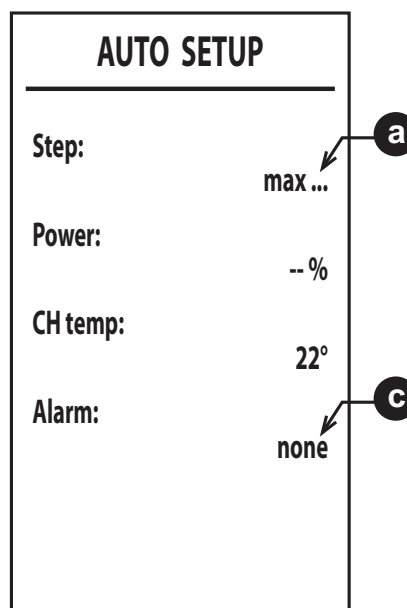

fig. 51
6. After ignition, the burner goes to heating at the various powers (max, med, min) indicated by point **a** (fig. 51).
8. If the ignition sequence described in point "6" is not successful, the message **max_err** at point **a** and an error code at point **c** will appear (fig. 51).